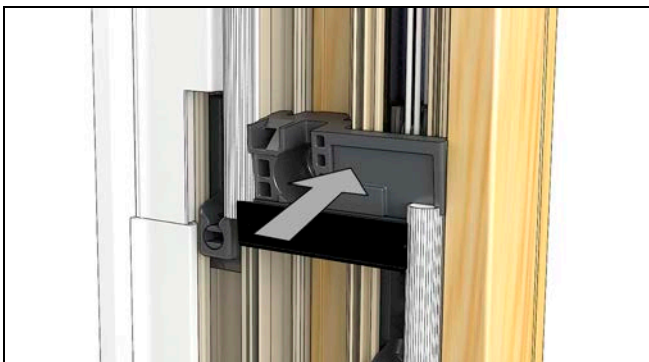

Figure 39
8. Center the window in the opening. Jamb need to be straight and level. Apply #8 X 3" screws until snug through the pre-marked holes, do not over tighten, to permanently secure the unit to the framing members. See Figure 39